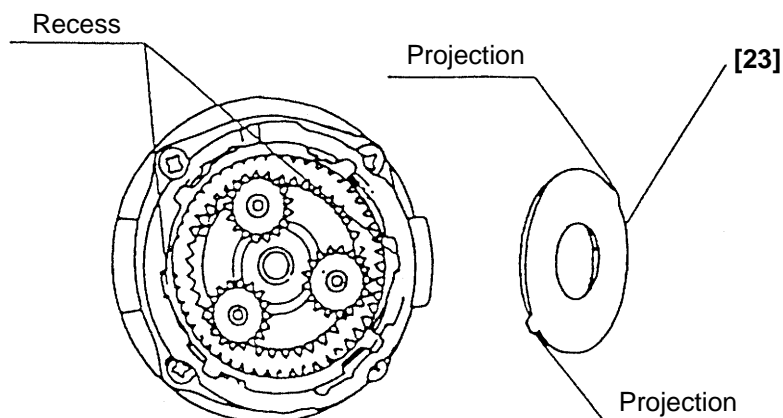

Fig. 10
- (iii) Install Washer (B) **[23]** in the Rear Case **[14]** with the projections of Washer (B) **[23]** engaged with the recesses in the Rear Case **[14]**, and turn Washer (B) **[23]** clockwise until it can turn no further. (See Fig. 10.)